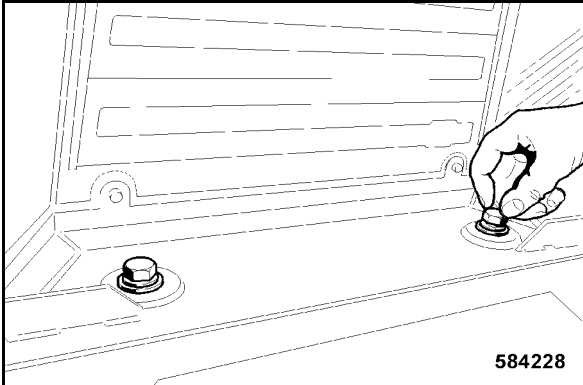

Fig. 207
- Turn both fastening screws (Fig. 207) at the rear of the cabin in handtight.